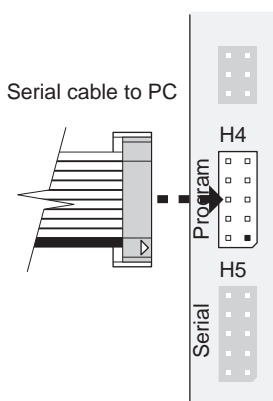

Figure 2-6. Serial Cable Connection to CM7100 Prototyping Board
- Connect the serial cable. Connect one end to the PC COM port. Then connect the 10-pin end to header H4 of the Prototyping Board as shown in Figure 2-6. Be careful to match the arrow on the connector to the location of pin 1 on header H4.